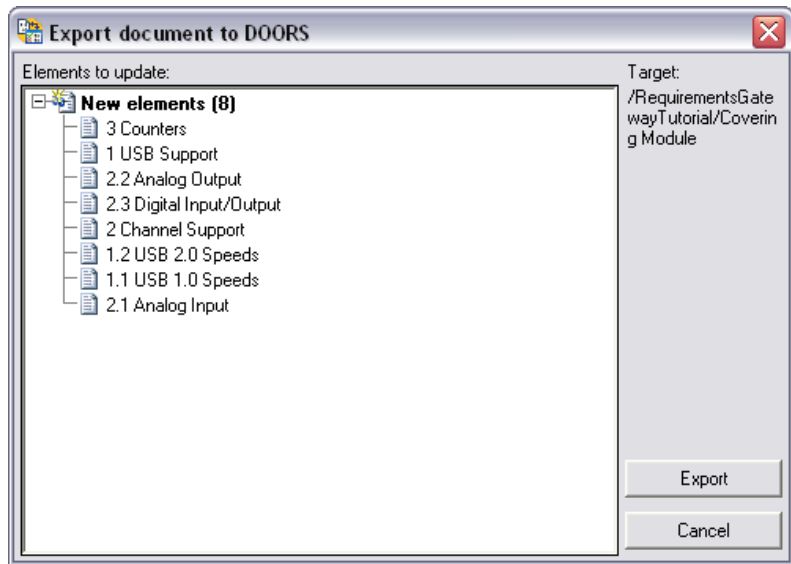

Figure 10-8. Confirmation for Export Document to DOORS
5. Click **Export** to launch a confirmation dialog box that lists the new elements to export to DOORS, as shown in Figure 10-8.